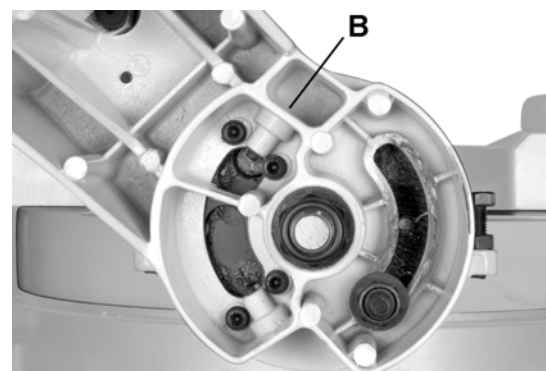

Figure 15
6. Repeat steps for the right bevel 33.9° bevel adjustment, making adjustments to setscrew B, Fig. 15.